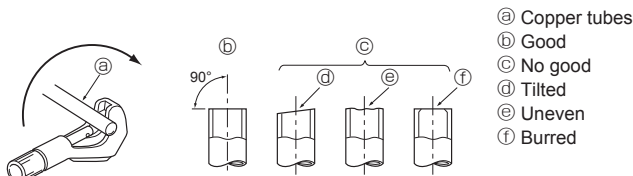

Fig. 4-3
4.2.1. Pipe cutting (Fig. 4-3)